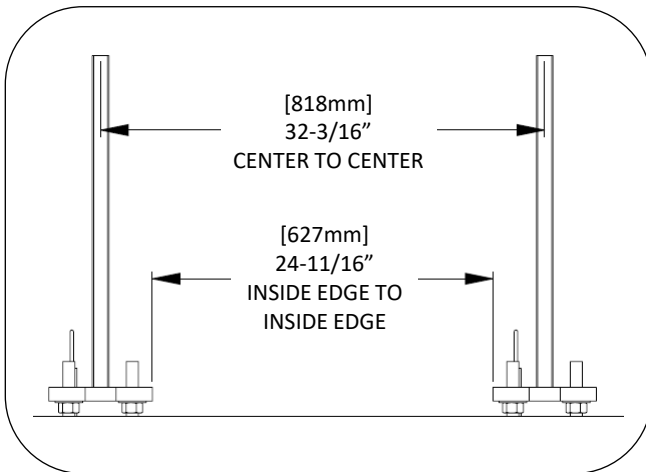

FIG. 6 – INNER POST SPACING CHECK
6. Check vertical level on inner posts. Check spacing between base plates as noted in Fig. 6 to ensure back glass panel will install correctly. Do not fully tighten hardware.